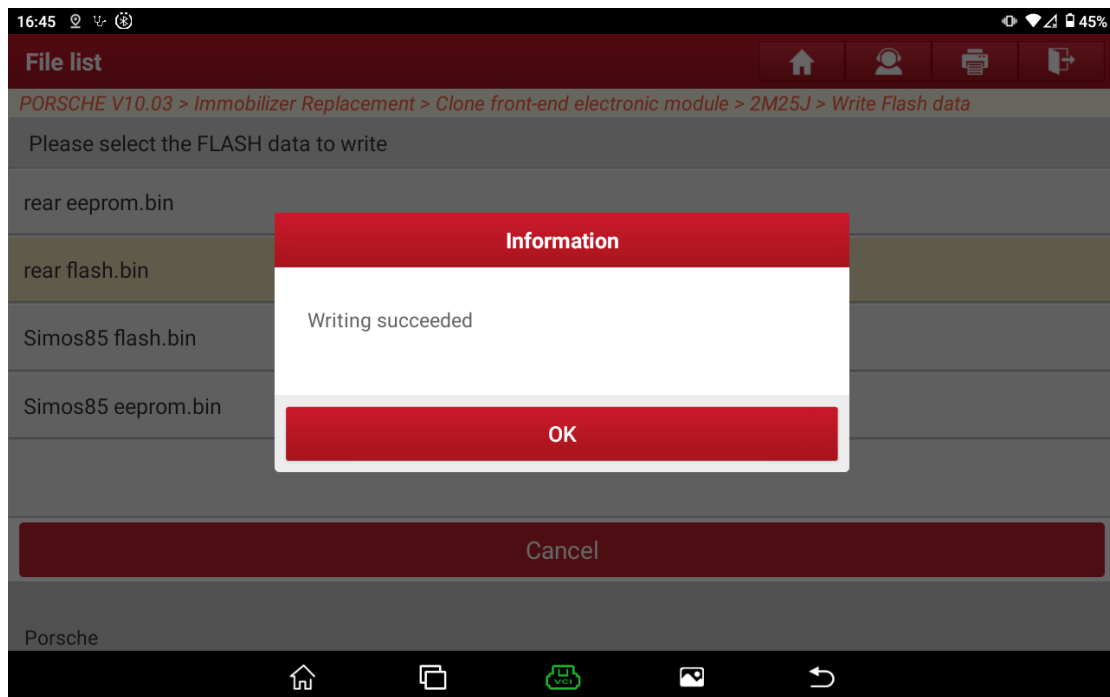

Figure 16
14. The FLASH data is large. After about 10 minutes, the writing is successful, as shown in Figure 16.